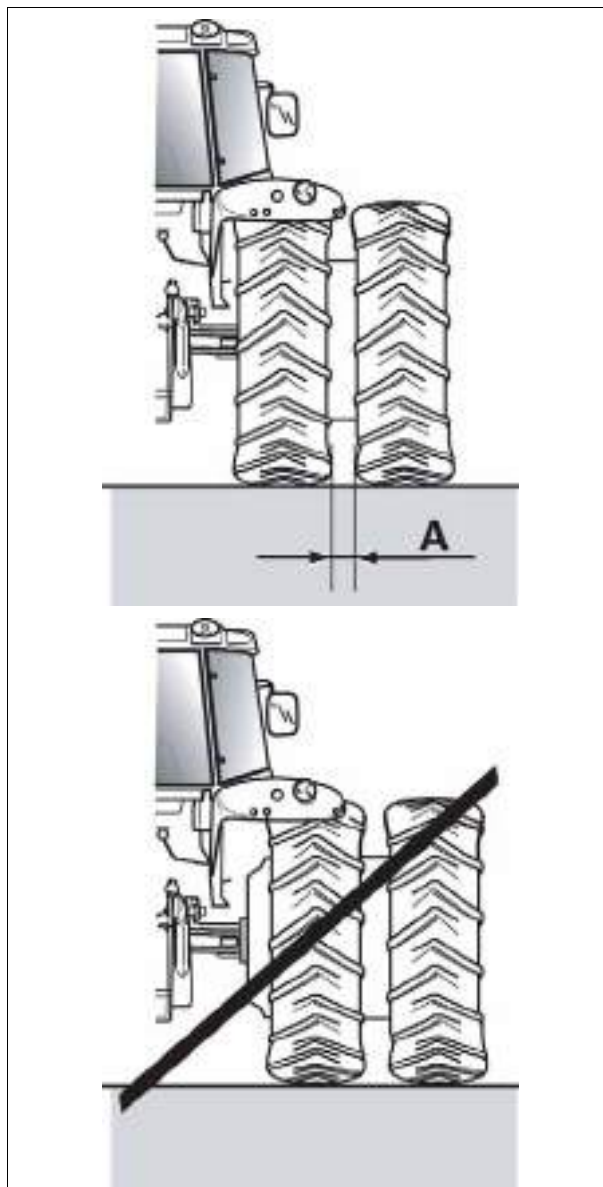

Fig. 7.
- Set the inner wheels to minimum track width *fig. 7.*